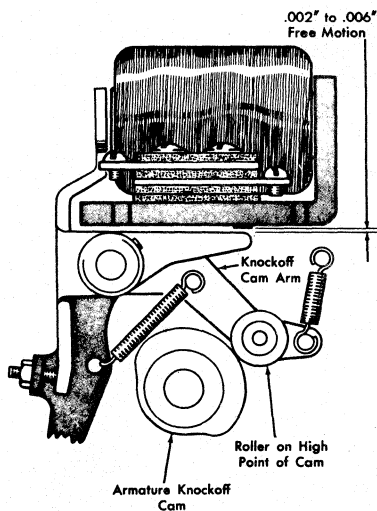

Figure 116. Magnet Armature Knock-Off
3. Form stop arm on control magnet armature assembly to allow free motion of .002-inch to .006-inch when armature knockoff roller is on high dwell of its cam (Figure 116).